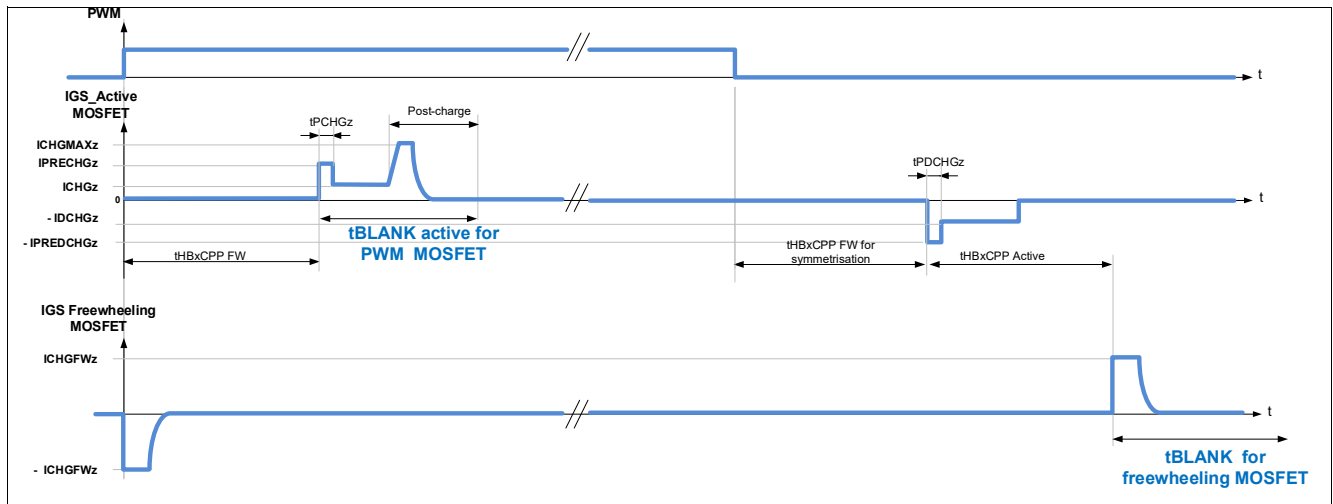
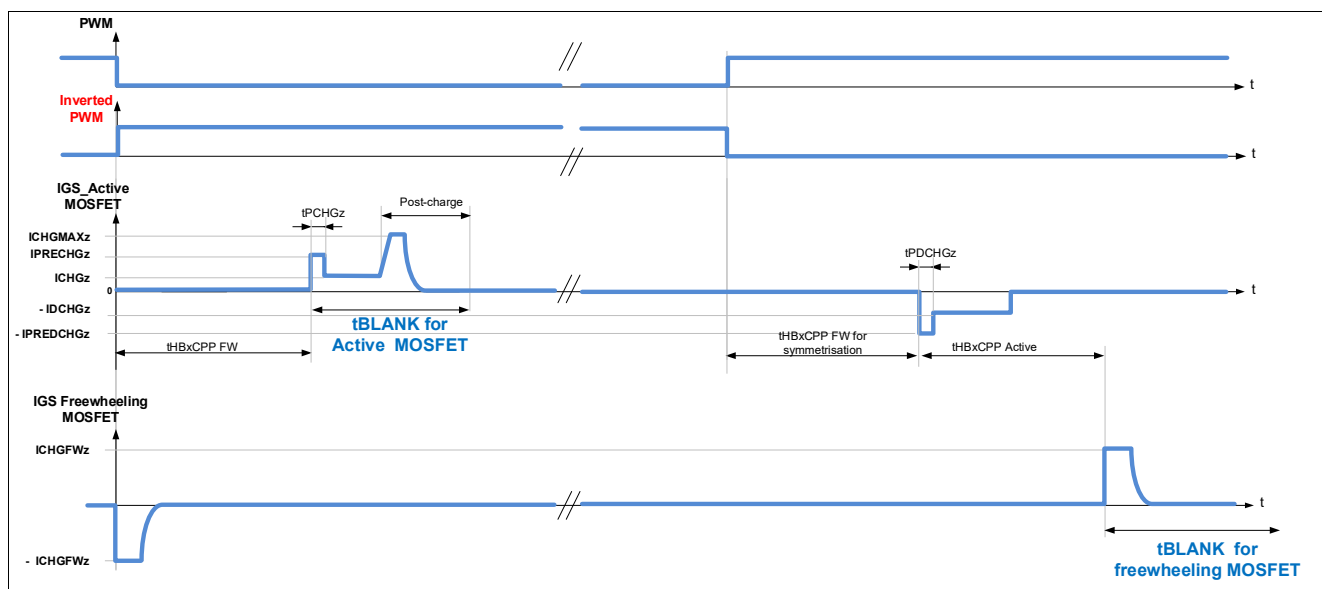

Figure 34 Blank time for half-bridges in PWM operation, detection of generator mode enabled ($EN_GEN_CHECK = 1$), motor operating as load
Figure 35 Blank time for half-bridges in PWM operation, detection of generator mode enabled (EN_GEN_CHECK = 1), motor operating as generator
- The blank time of the Active MOSFET starts at the expiration of the cross-current protection time of the FW MOSFET ($t_{tHBxCPP FW}$). Refer to **Figure 34** and **Figure 35**.
- The blank time of the FW MOSFET starts after expiration of the cross-current protection time at turn-off of the Active MOSFET ($t_{tHBxCPP Active}$). Refer to **Figure 34** and **Figure 35**.